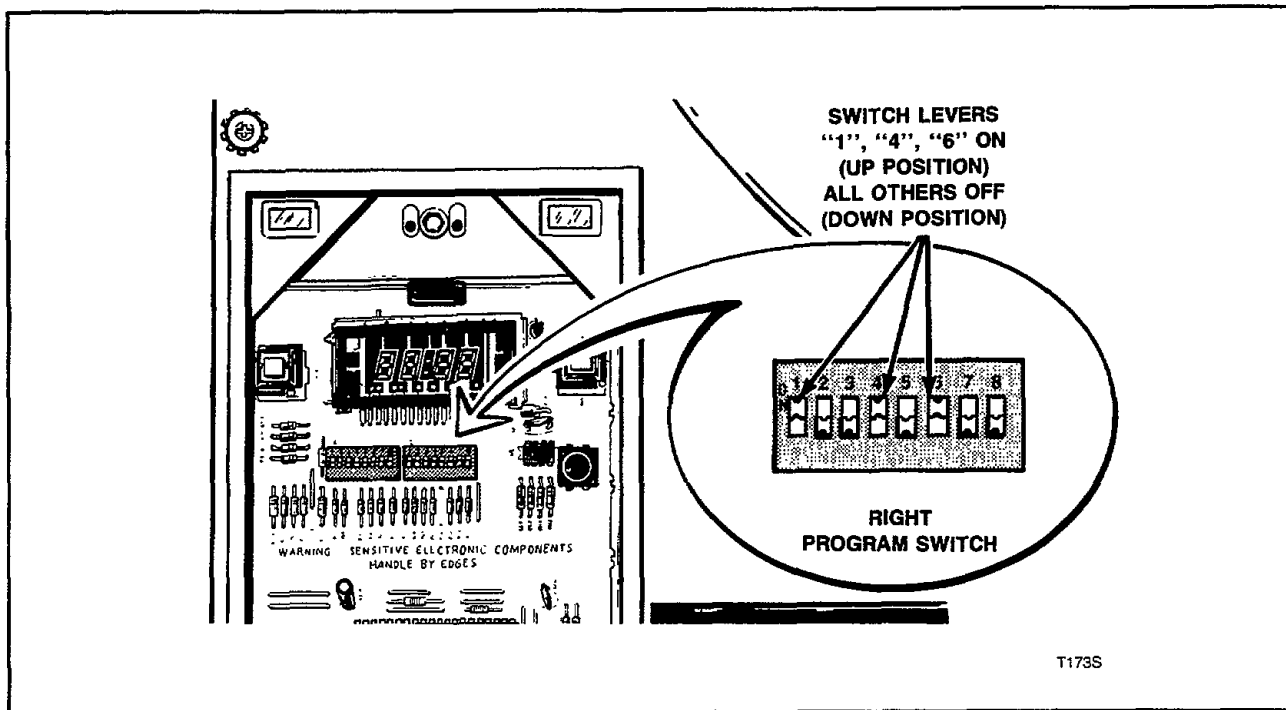

Figure 38
- b. Slide the right program switch levers 1, 4, and 6 up, Figure 38. All the other switches must be down. This mode allows you to check out the push buttons, beeper, and program code on the display.